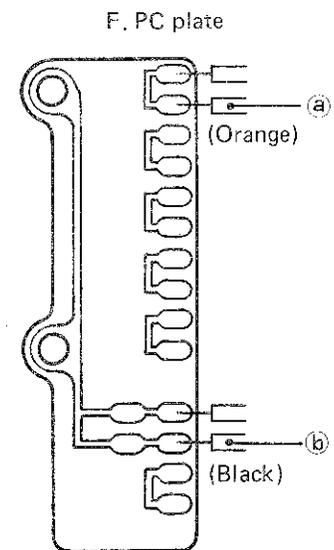

Fig. 33
1. Remove orange and black lead wires (a) and (b) (Fig. 33) to F PC place (Parts No. 6200-15611).